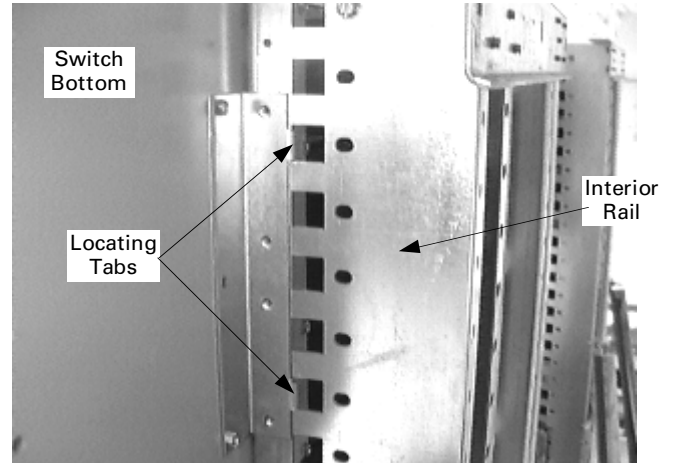

Figure 1. Positioning the switch in the panelboard interior.
1. **Position the switch.** Orient the switch with the ON side of the label facing up. Align the locating hook tabs on the bottom of the switch into the square holes in the support rails on the panelboard interior, as shown in Figure 1.